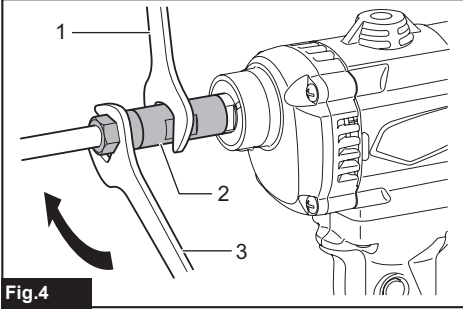

Fig.4
► Fig.4: 1. Wrench 2. Shaft holder 3. Wrench